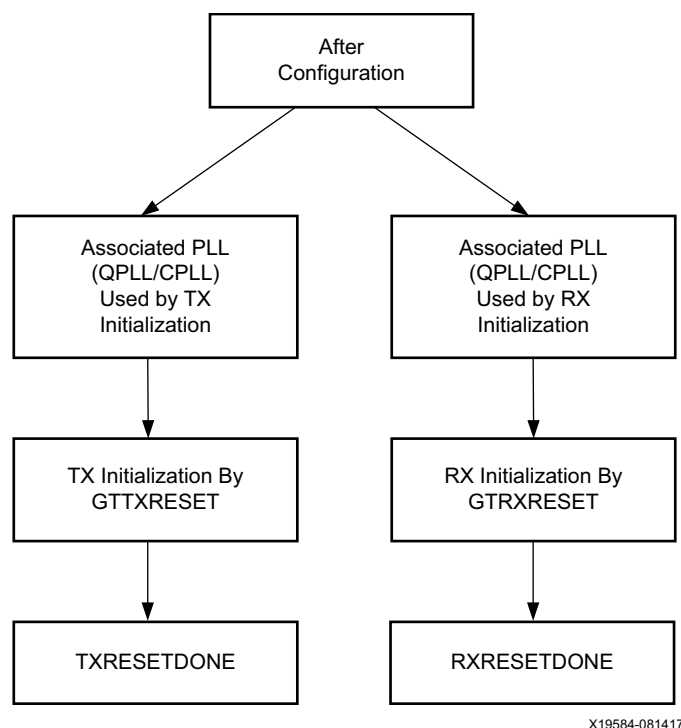

Figure 2-17: GTY Transceiver Initialization Overview
The GTY transceiver must be initialized after device power-up and configuration before it can be used. The GTY transmitter (TX) and receiver (RX) can be initialized independently and in parallel as shown in Figure 2-17. The GTY transceiver TX and RX initialization comprises two steps: